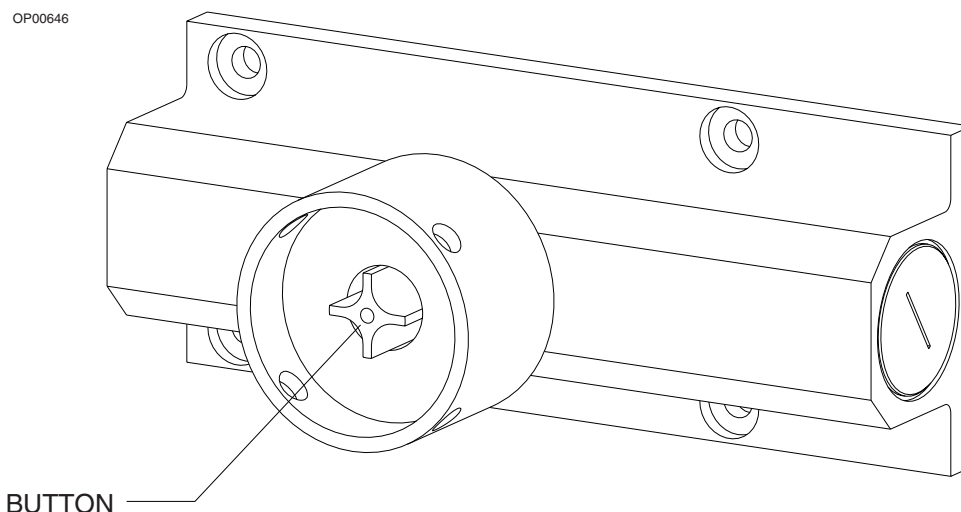

Figure 10-8. Gas Channel Block with Secondary Vacuum Relief Valve
7. Press the button on the secondary vacuum relief valve, and verify that it operates freely (see Figure 10-8).